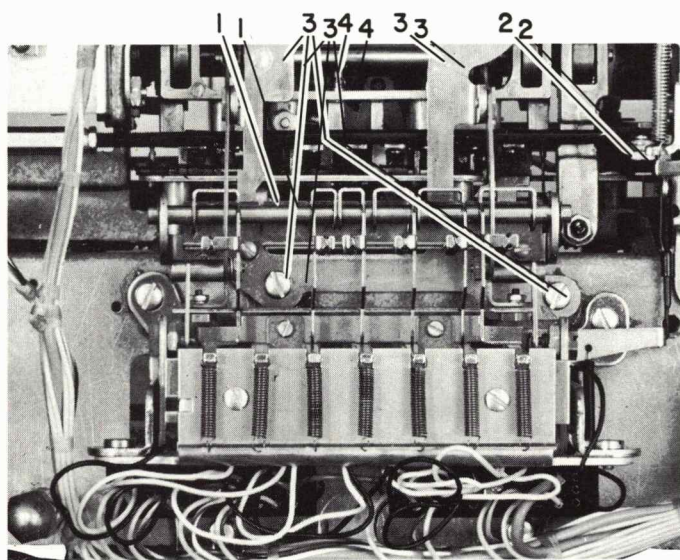

FIGURE 28. Differential Plate Removal
4. Unhook the check-latch-link spring (#1, Figure 28).
5. Remove the rotate-arm link (#2, Figure 28).
6. Scribe the position of the pusher-arm plate to the power frame and remove the four mounting screws (#3, Figure 28).
7. Remove the positive bail spring (#4, Figure 28).